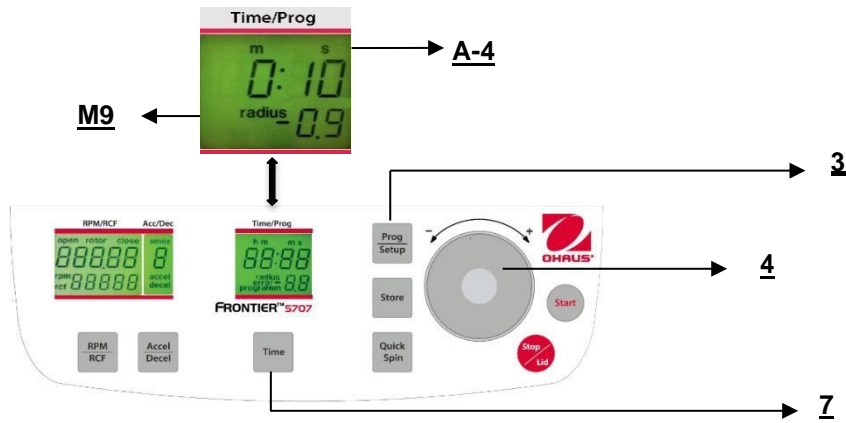

Figure. 19
Close the lid, then press the key **"Time"** (7) (refer to figure 19) and the key **"Prog/Setup"** (3) at the same time and hold them.